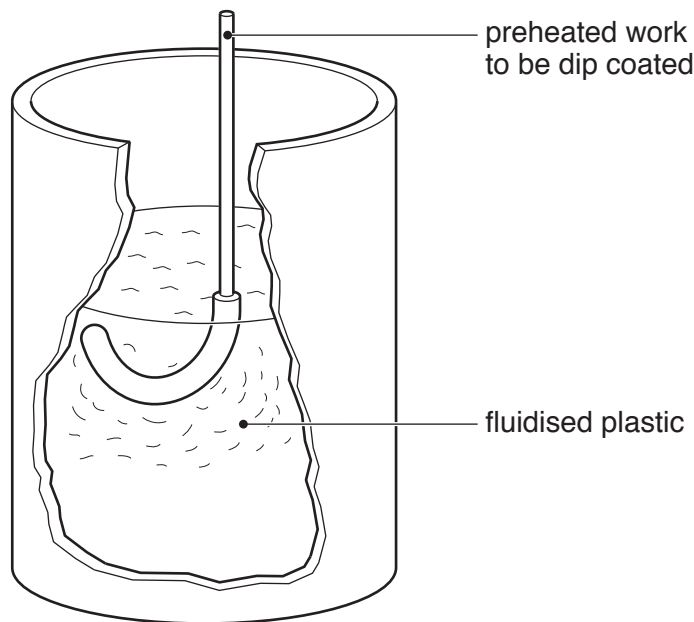

Fig. 6
- 6 Fig. 6 shows a cut-away diagram of a fluidising tank used in the process of dip coating metal with plastic.